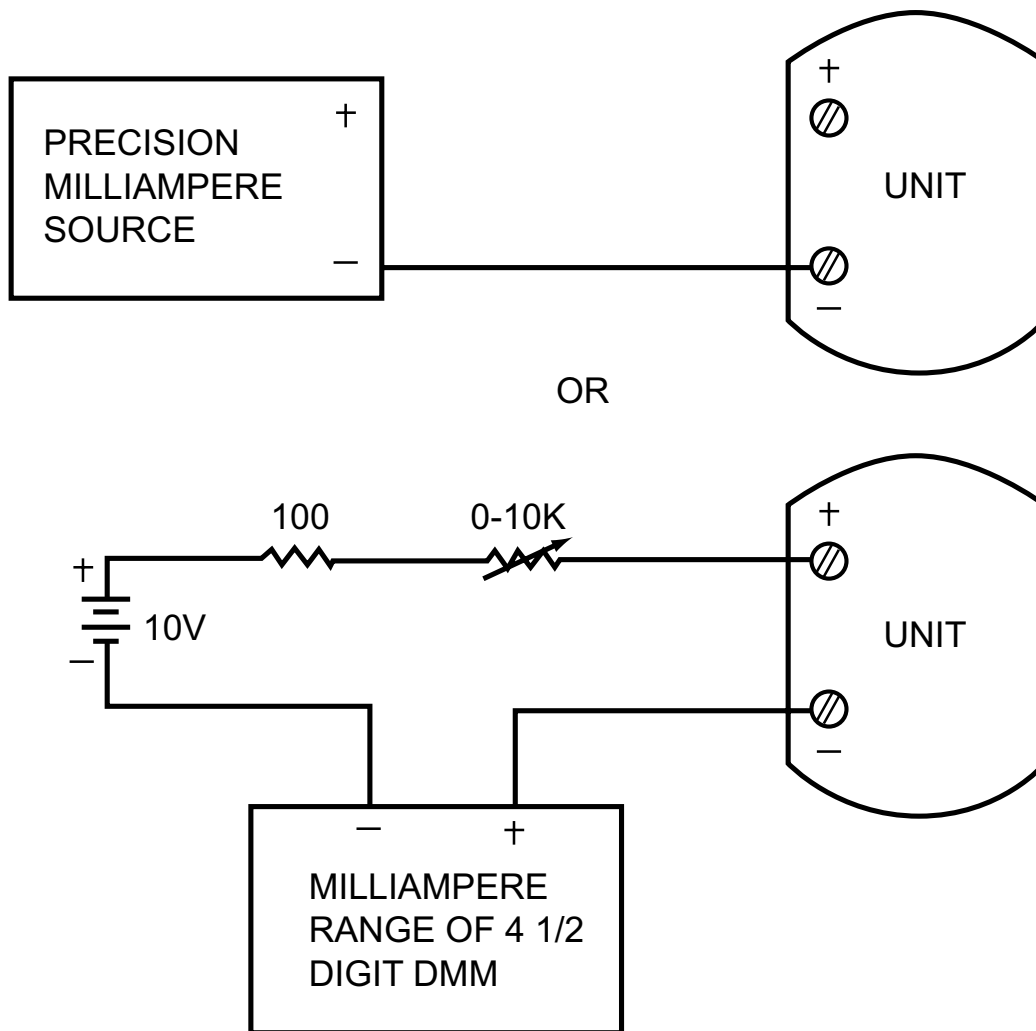
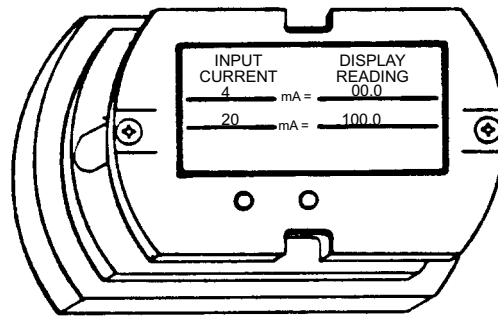

Figure 5-2. Calibration Setup
Figure 5-3. Label Placement
4. Set up 508B in calibration configuration. (See **Figure 5-2**)
- A. Alternately apply input currents I1 and I2, and adjust span pot (S) until span reading equals $N_2 - N_1$ counts.
- B. Apply input current, I1, and adjust the zero pot (Z) until a reading equal to N1 is displayed.
8. Apply labels as described in **Section 5.6**. (See **Figure 5-3**).